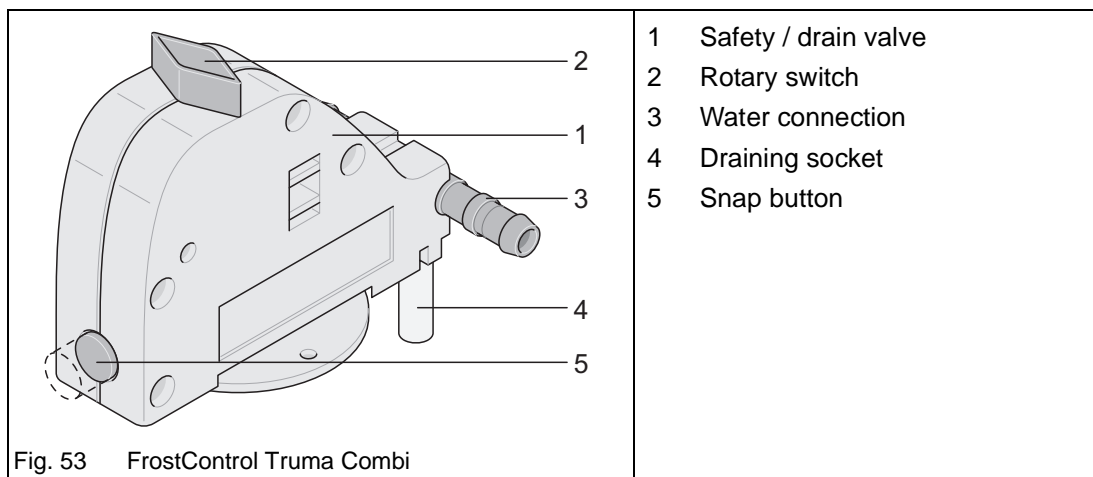

Fig. 53 FrostControl Truma Combi
"FrostControl" (Fig. 53/1) is a currentless safety/drain valve. When there is a danger of frost, it automatically drains the contents of the boiler through a draining socket (Fig. 53/4). If excessive pressure is present in the system, pressure will be automatically intermittently equalised through the pressure relief valve.
- ➔ Check if the rotary switch (Fig. 53/2) is set to "Operation" (parallel to the water connection (Fig. 53/3)) and is engaged.
It can be manually closed with the snap button (Fig. 53/5) (pressed) and then the boiler filled only when the temperature at the drain valve is above approx. 7°C.
- ➔ Set the heater to summer or winter mode (Chapter 13.1.4 or 13.1.5) and set the rotary switch (Fig. 53/2) of the valve (Fig. 53/1) to "Operation". The rotary switch must engage.
- ➔ Press the snap button (Fig. 53/5) into the valve until it engages ("closed" position).
- ➔ Always keep the drainage pipe (Fig. 53/4) of the safety / drain valve free from contamination (slush, ice, leaves, etc.).
When the temperature at the drain valve is below approx. 3 °C, the drain valve will open automatically, the snap button (Fig. 53/5) springs out and the supply of water of the motorhome drains out through the drainage pipe (Fig. 53/4).
- ➔ Turn the rotary switch (Fig. 53/2) 90° until it engages.
The snap button (Fig. 53/5) springs out and the water drains out through the draining socket (Fig. 53/4).
- ➔ Turn the rotary switch of the drain valve 90° until it engages (Fig. 53/2).